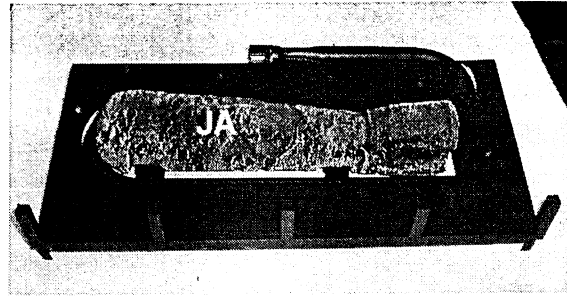

FIGURE 11D
#936 DV LOG INSTALLATION. See Figures 11D -11F.
1. Position the 'JA' log onto the center of the burner cover aligning the notches in the bottom of the log to the brackets in the burner cover. Figure 11D.